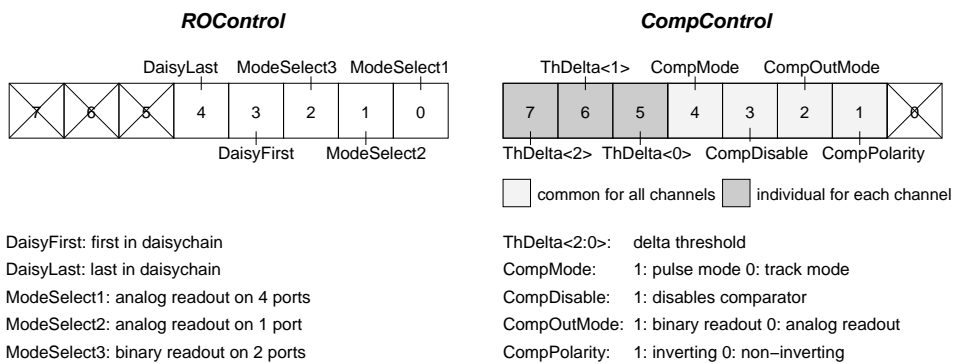

Figure 5: Bit assignment of the configuration registers *ROControl* and *CompControl*. All switches are active-high. 1 enables the switch, 0 disables it.
*Beetle*1.1 contains 34 8-bit registers with the addresses 0-32 and 37. The register addresses 33-36 are presently not used but reserved for future purposes. Table 6 lists all registers with their nominal value and register content. A LSB corresponds to 0.977 μ A for currents and 2.44 mV for voltages. Registers 0-29 are bias registers for the analog stages. Register 30 defines the latency, register 32 the ratio between the readout clock *Rclk* and the sampling clock *Sclk*. Each LSB reduces the frequency of *Rclk* with respect to *Sclk* by a factor of 2. The register value is modulo 8, a 0 means, that *Sclk* and *Rclk* have the same frequency. The registers 31 and 37 select the chip's mode of operation (readout mode, daisy-chain configuration) and define the comparator configuration. Fig. 5 shows the detailed bit assignment of the registers *ROControl* and *CompControl*.